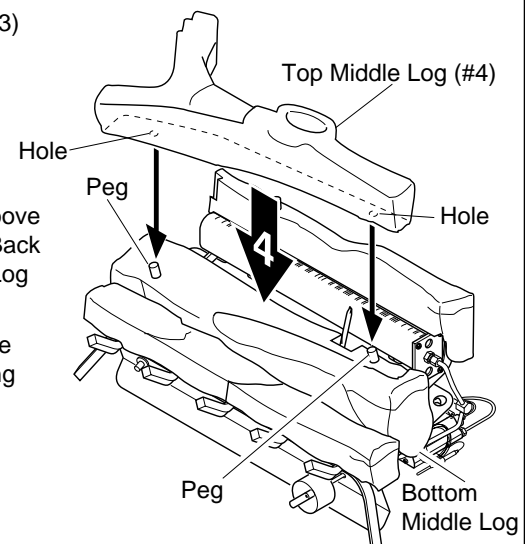

Figure 24 - Installing Top Log (#4)
4. Place the top middle log (#4) on the bottom middle log (#2). Make sure the pegs of the bottom middle log fit securely in the holes of the top middle log (see Figure 24).